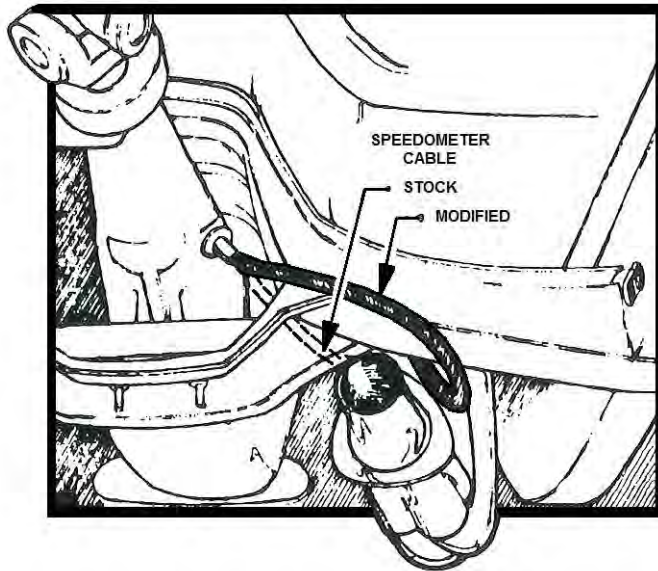

Figure 1
8. Manual transmission models require the relocation of the speedometer cable. See **Figure 1**.